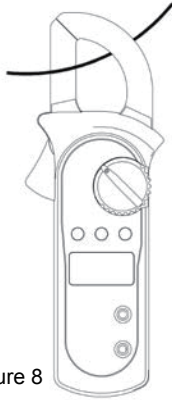

Figure 8
F. Measuring AC Current (See Figure 8)